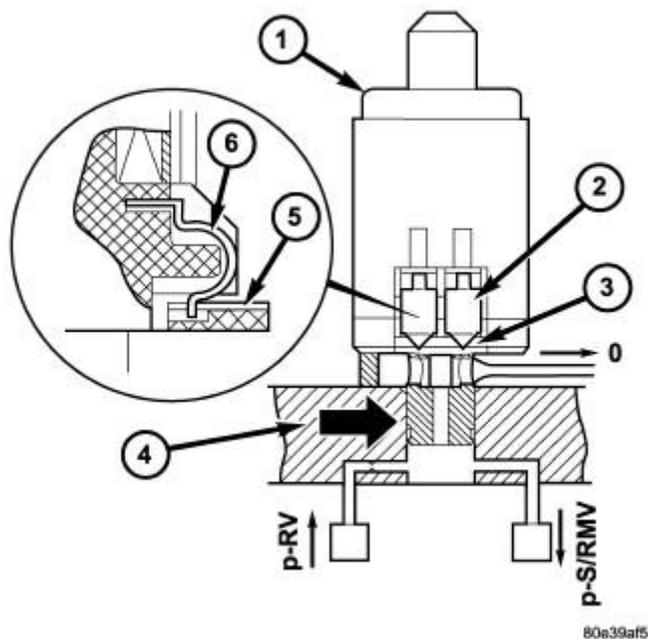

Fig. 203: Cutaway View Of Shift Pressure Control Solenoid Valve
The shift pressure control solenoid valve (1) is located in the shell of the electric valve control unit and pressed against the shift plate by a spring. Refer to **Fig. 203**.